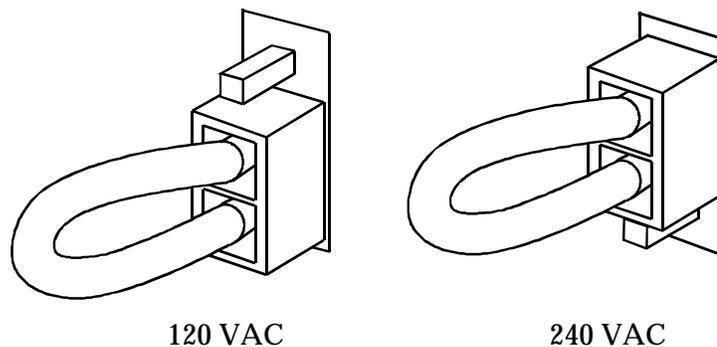

Figure 27. Line Voltage Strap Positions
- 1 Locate the Line Voltage Strap shown in Figure 9 and the 120/240 label that is printed on the PSU board. The strap's continued plastic casing holds a heavy-duty wire shunt that connects the lower two of the strap's three contacts in the 120 VAC position (see Figure 27).